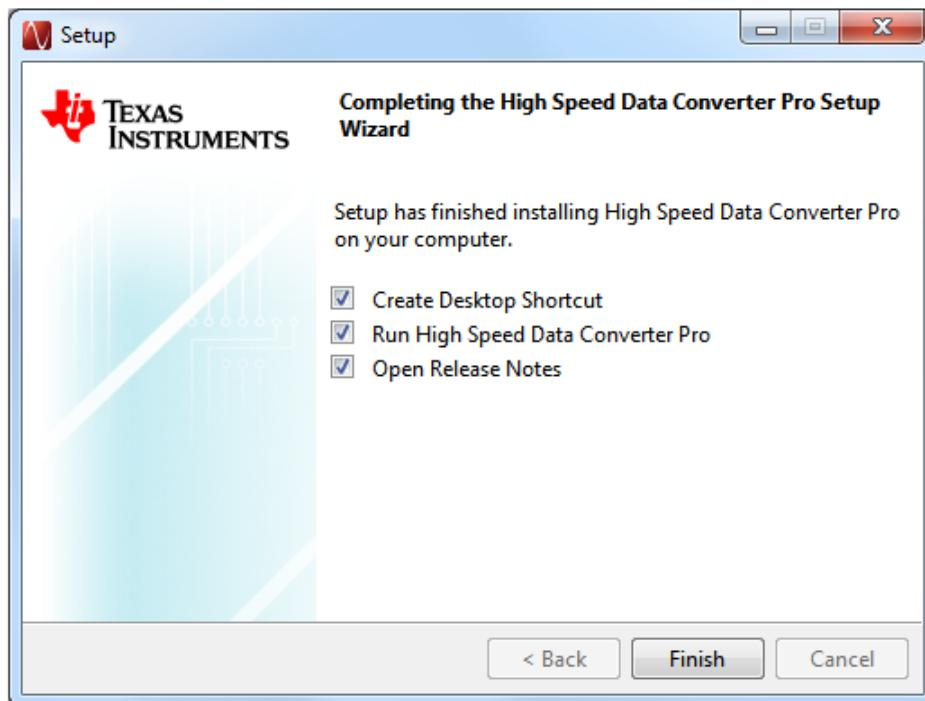

Figure 33. HSDCPro Install (Finish Installation)
10. Finish HSDCPro installation by choosing the installation options and pressing *Finish*, as in Figure 33.